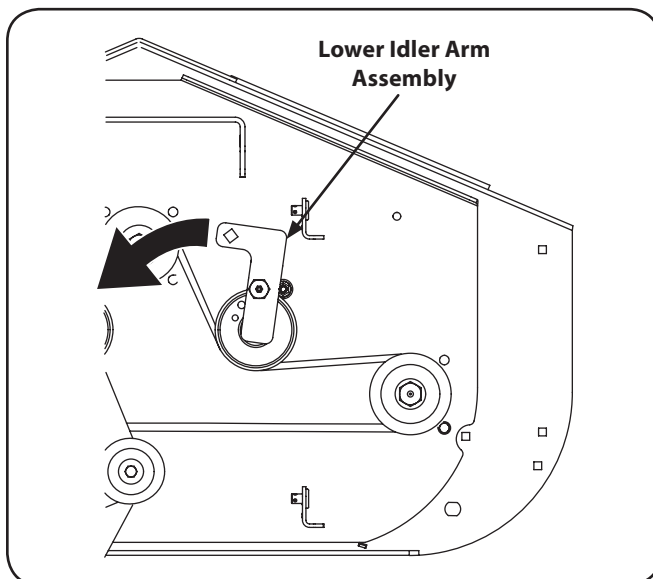

Figure 1-4
3. Using a $\frac{3}{8}$ " socket breaker bar or socket ratchet insert the drive end into the $\frac{3}{8}$ " square opening in the lower idler arm assembly and push the idler arm counterclockwise. See Figure 1-4. While holding the idler arm back, loosen the deck belt from the pulley and slide the belt away from the pulley.